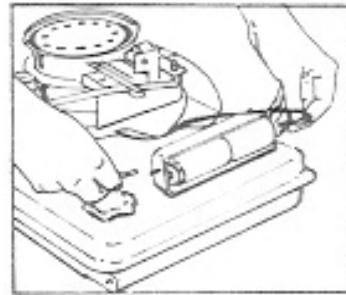

Fig. 17
- (3) Remove lead wires and loosen set screws of shut off device (Fig. 17)